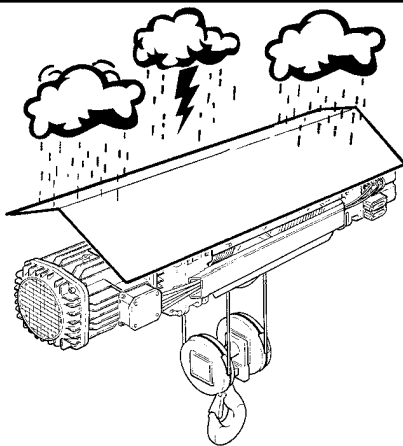

fig. 116
- **ALWAYS** ensure that the hoist operates in an environment protected from atmospheric agents (rain, wind, snow, etc.), or, if in the open, that it has adequate shelter or protection (fig. 116).